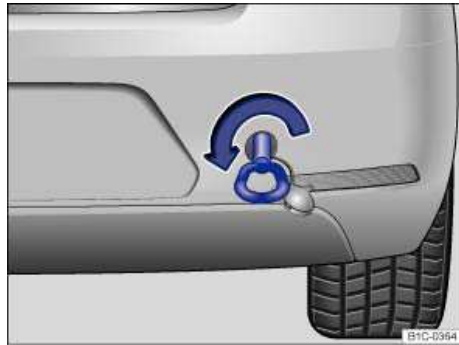

Fig. 186 In the right rear bumper: Installing the towing eye.
There is a threaded hole for the towing eye in the right rear bumper ⇒ fig. 186.
- Screw the towing eye **counterclockwise** into the threaded hole as far as it will go (arrow) ⇒ fig. 186 ⇒ ⚠. Use the lug wrench to turn and tighten the towing eye completely and securely.